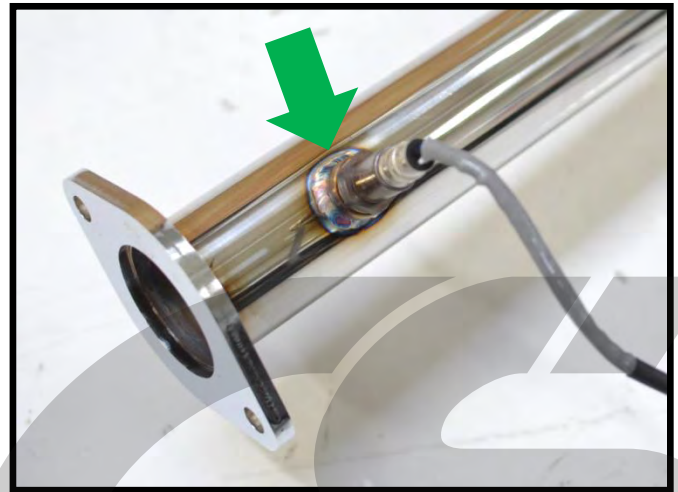

Figure 4a
a) Coat the threads on the O2 sensor with anti-seize and fasten it back into the O2 bung in the exhaust with an O2 sensor wrench (green arrow in Figure 4a).